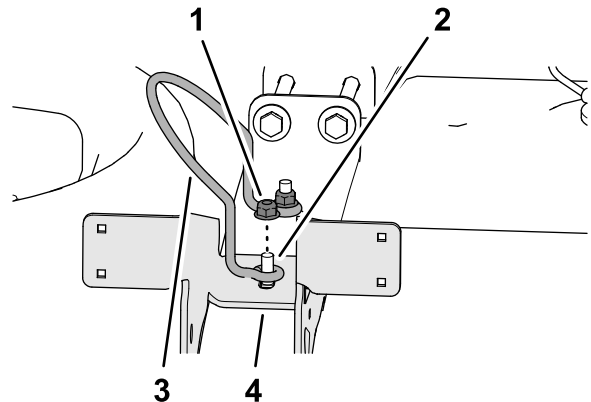

**Figure 14**
2. Align the slots in the eductor mount to the 2 lower carriage bolts of the rear tank strap as shown in Figure 14.
3. Loosely assemble the flange locknut (5/16 inch) onto the lower carriage bolt (Figure 14).